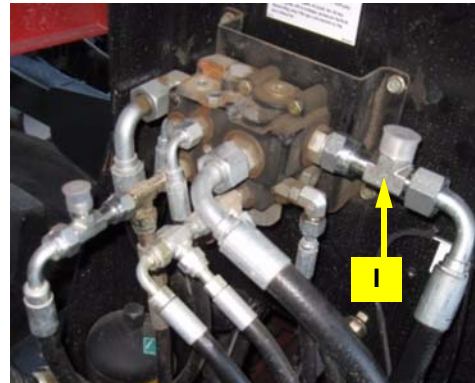

Figure 3b: Installed pressure line run tee
- b. Install the run tee **I** then reattach the pressure line to the end of it (Figure 3b).